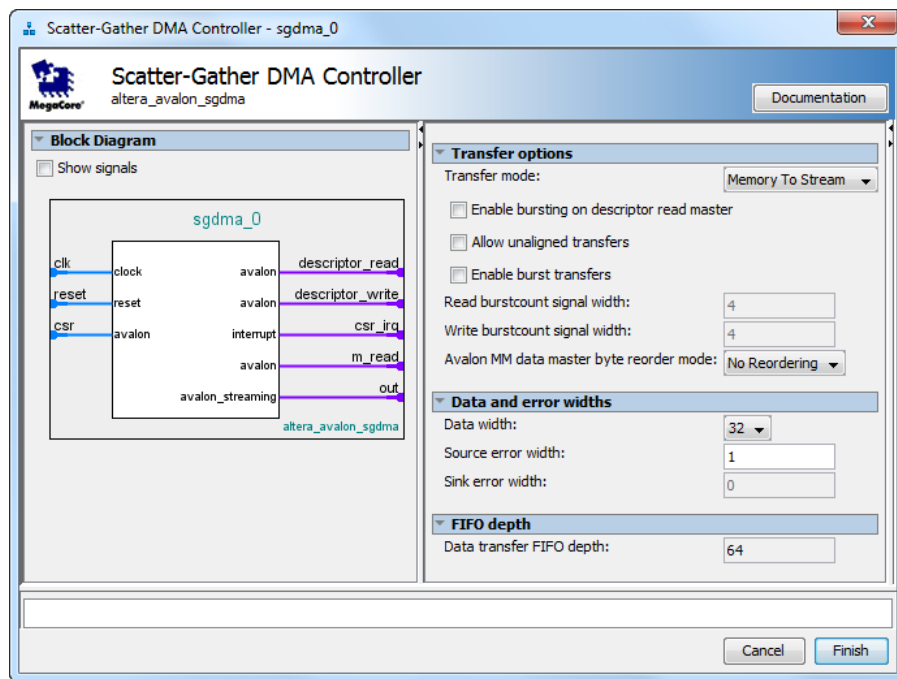

Figure 8. Settings for the other SGDMA controller.
- As depicted in Figure 8, select **Memory To Stream** as the transfer mode and **1** as the source error width.